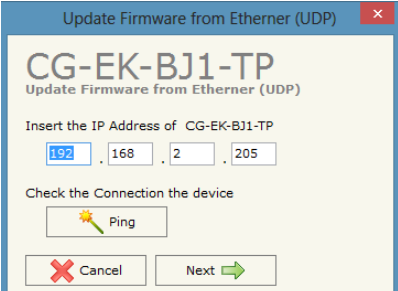

Figure 12 - Update configuration form
- Write the IP address **192.168.2.205** inside the Update Configuration form (see Figure 12 – Update configuration form)